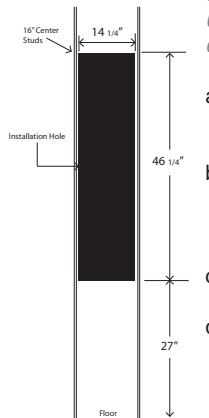

Figure 1
- b) Standard ironing height is 36 inches above the floor. Using the dimensions in figure 1 will give you that perfect standard ironing height. You may adjust higher or lower according to your preference.
- c) Using a pencil mark the location of the in-wall mounting hole. (See Figure 1 for dimensions)